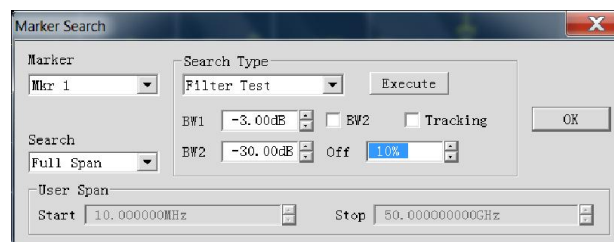

Fig. 3.42 Filter Test
- Filter test: the analyzer has a special shortcut function to test the filter, and all test parameters will be automatically displayed on the screen so that the user can directly observe measurement results. As manual setting in the test is eliminated, the speed of filter test is greatly increased. As shown in Fig. 3.42.